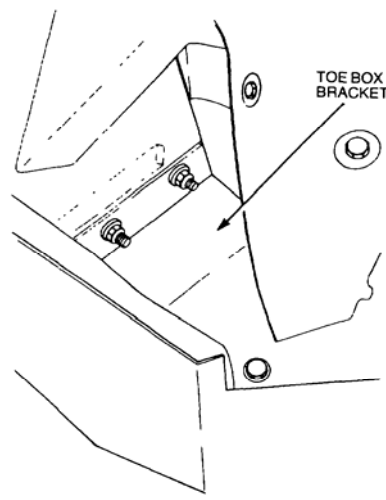

Figure 16 Removal of the Toe-box Bracket
- nn.** Remove the bolts securing the firewall toe-box brackets to the chassis (Figure 16), and using suitable overhead lifting equipment, with a minimum safe working load of 500 kg; attach two slings to the windscreen mounting holes. Remove the bolts securing the firewall to the outriggers and raise the firewall off the chassis frame.
- l.** Install the bolts that secure the toe-box brackets to the chassis (Figure 16).